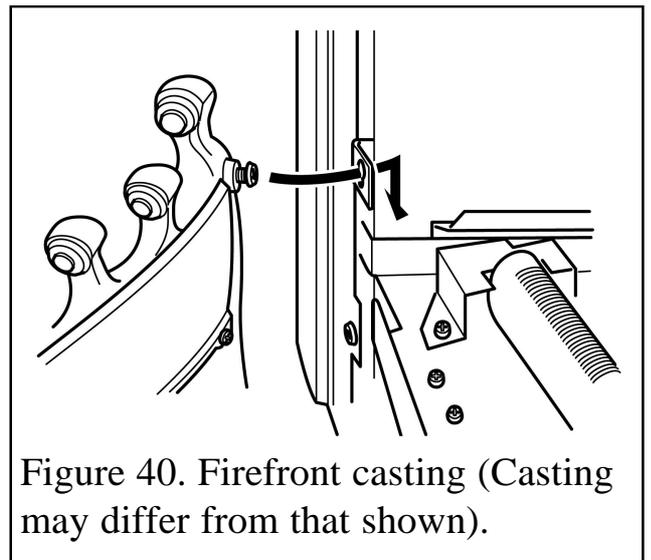

Figure 40. Firefront casting (Casting may differ from that shown).
Locate the two screw heads at the rear top corners of the firefront casting through the keyhole slots at the inner sides of the fascia. If the screw heads do not project enough or project too far, the screws can be adjusted. Lower the casting so that it rests on the hearth (See figure 40).
14.5 Locate the two screw heads through the keyhole slots at the inner sides of the surround. If the screw heads do not project enough or project too far, the screws can be adjusted. Lower the casting so that it rests on the hearth (See figure 40).